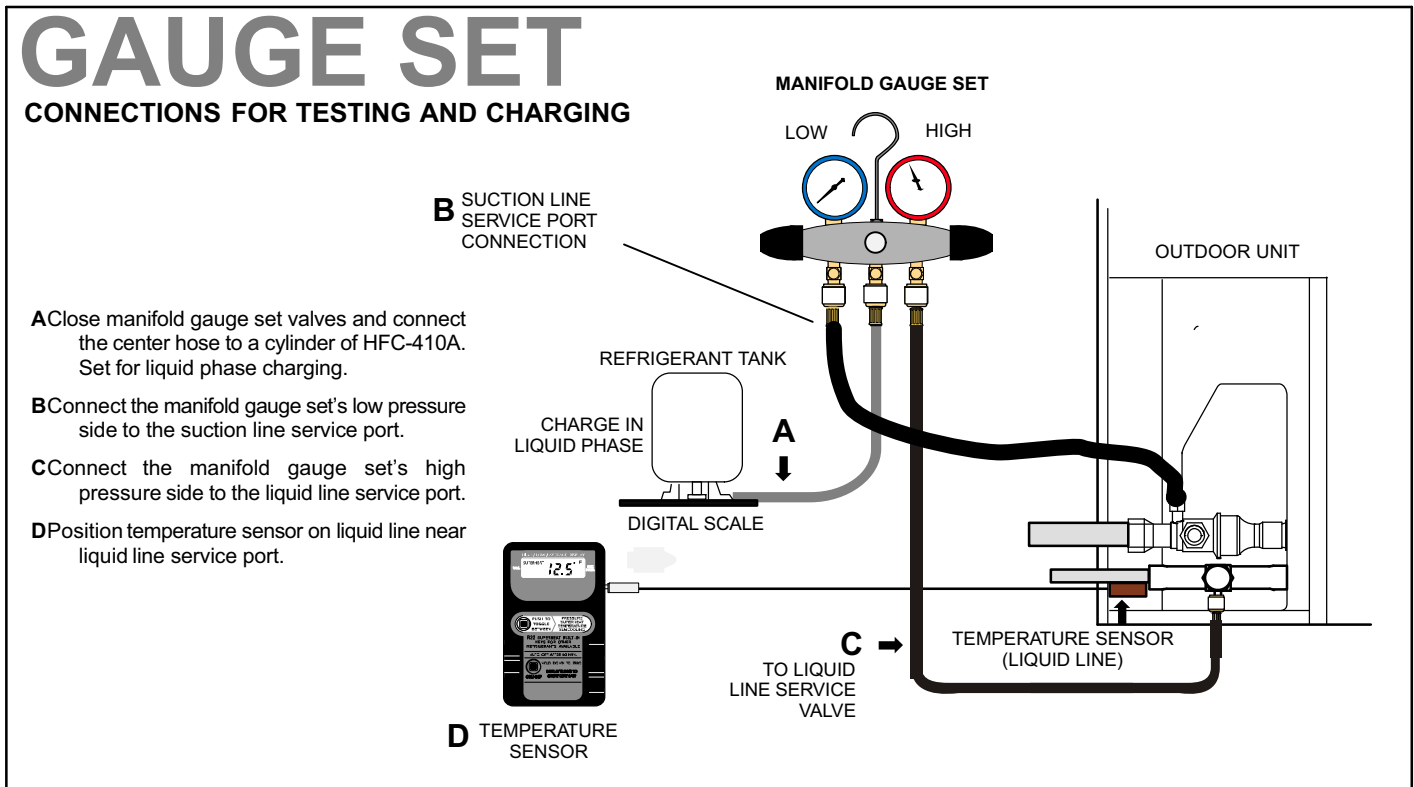

Figure 18. Manifold Gauge Set Setup and Connections
6. Connect manifold gauge set for testing and charging using figure 18 as a guideline.